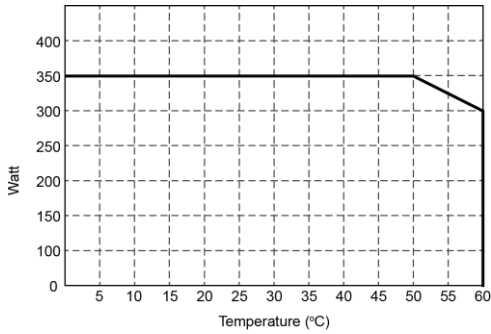

Figure 2. SE350 temperature performance
- ① Normal load Condition : Vin =12.5V/25V/50V, Vo=100/110/115/120 VAC 80% load (PF=1.0)
- ② Voltage performance : Please refer to Figure 2
- ① Normal load Condition : $V_{in} = 12.5V/25V/50V$, $V_o = 200/220/230/240$ VAC 80% load (PF=1.0)